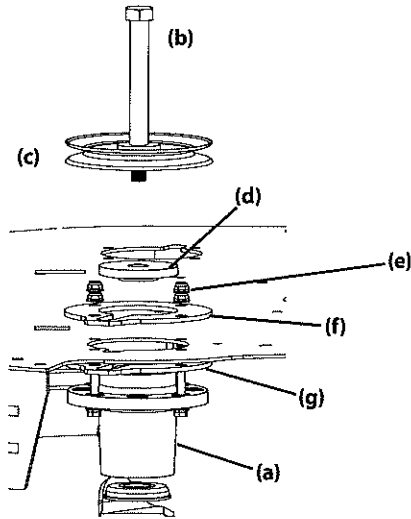

Figure 39
6. Remove the hex bolt (b), pulley (c) and spacer (d) spacer from the spindle assembly (a). See Figure 39.
7. Remove the four flange lock nuts securing the (e) upper support plate (f), lower support plate (g) and spindle assembly (a) to the deck. See Figure 39.
12. Reverse the process to install the spindle assembly. When installing the new spindle assembly be sure to install the hardware exactly as shown in Figure 39 and Figure 39.. Torque the hex flange bolts to 250 ft-lbs. (338.95 N-m) and the flange lock nuts to 21-32 ft-lbs (28.47-43.39 N-m).